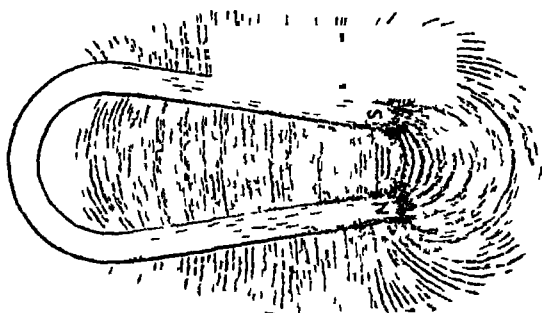
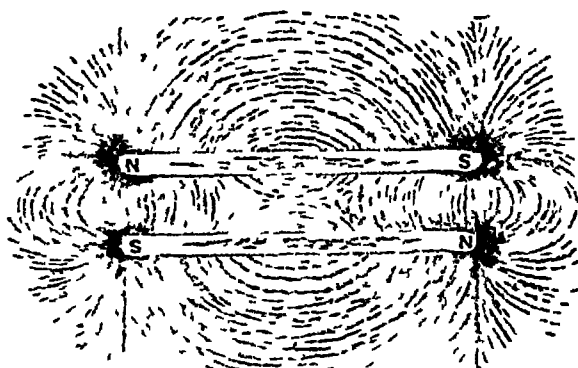

FIG 150.
FIG. 149
magnet (fig 149), (2) a horse shoe magnet (fig 150), and (3) two magnets with poles of opposite names near each other (fig 151) are illustrated